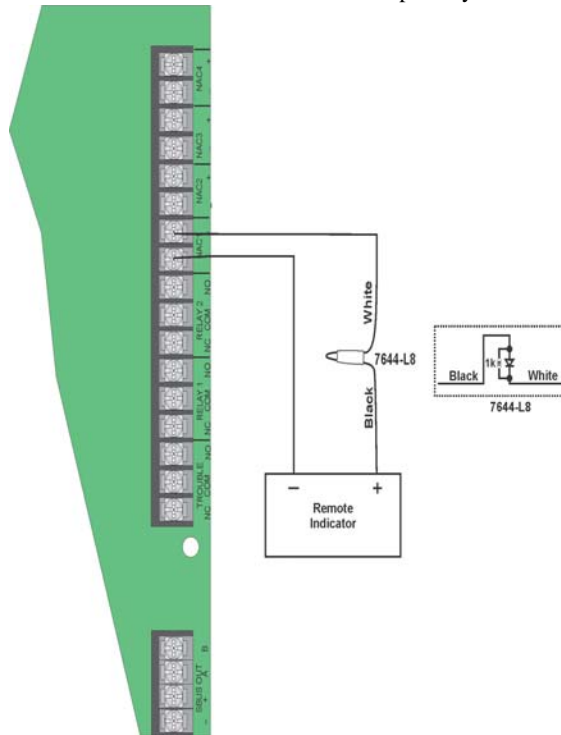

Figure 4.46 Polarity Reversal Connection Using the 7644-L8
- Wire the 7644-L8 to the control panel as shown in Figure 4.46. Do not install an EOL resistor on the terminals of the NAC circuit used.